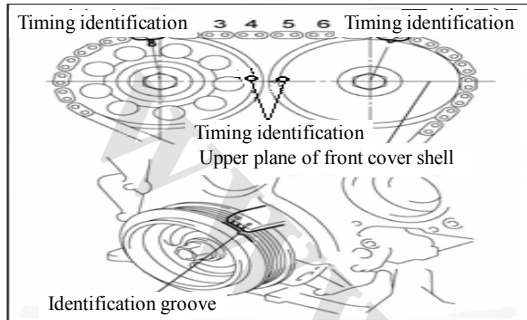

Fig. 1-41 Align Timing at #1 Cylinder TDC
1. Set #1 cylinder as the top dead center (TDC) of the compression stroke, see Fig. 1-41